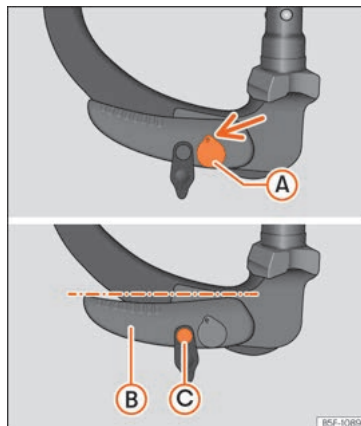

Fig. 294 Reserve position: position of the lever and the release bolt.
- Key (A) » Fig. 294 is in the released position [the part of the key with the holes is facing upwards].
- Lever (B) » Fig. 294 is in the bottom position.
- The release bolt (C) » Fig. 294 can be moved.